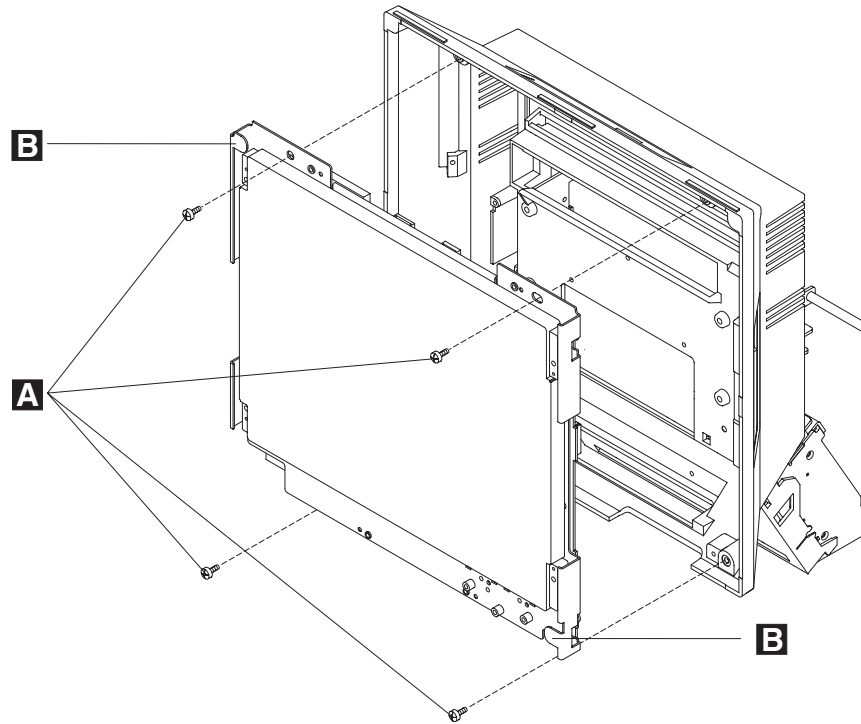

Figure 70. Removing the LCD and system board from the display housing
- a. Remove the four screws **A** as shown in Figure 70 on page 87. Remove the LCD and system board as a unit using the finger tabs **B**.